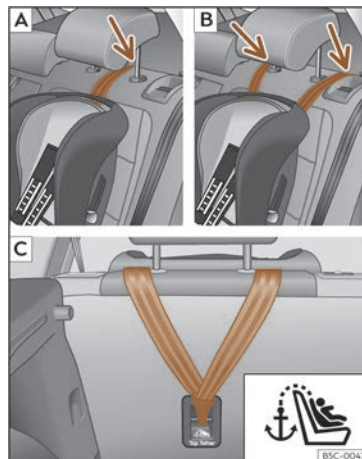
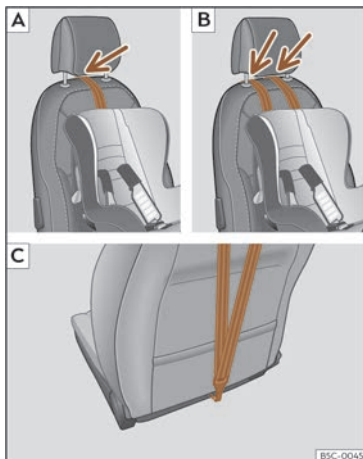

Fig. 37 Rear seats: adjustment and assembly according to the Top Tether belt.
Fig. 38 Front passenger seat: adjustment and assembly according to the Top Tether belt.
>>> **Fig. 37** [A]/[B], >>> **Fig. 38** [A]/[B].
- Slide the strap and secure it properly with the anchorage of the backrest >>> **Fig. 37** [C], >>> **Fig. 38** [C].